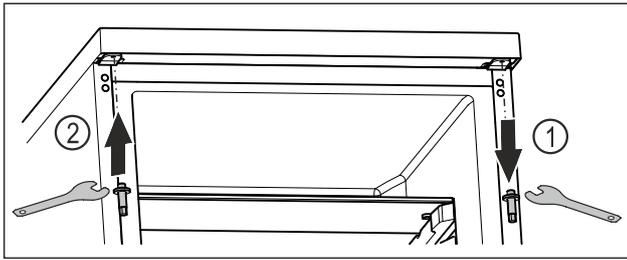

Fig. 23
- ▶ Unscrew the upper bolt using an external hexagon wrench. Fig. 23 (1)
- ▶ Tighten the bolt on the opposite side using an external hexagon wrench. Fig. 23 (2)